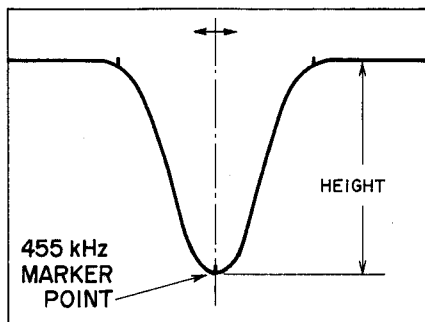

Fig. 15
- 5) Adjust the cores of FM-AM IF Amp. P.C. Board IFT T7(BLK) (refer to Fig. 5) so that the 455 kHz marker point of the single peaked curve displays maximum amplitude as shown in Fig. 15.
- 6) Adjust the cores of FM-AM IF Amp. P.C. Board IFT T6(WHT) and T5(YLW) (refer to Fig. 5) so that the left and right rise up characteristics of the single peaked curve shown in Fig. 15 are identical from the center (indicated by the dotted line in the figure).
NOTE: A noise element should not enter the single peaked curve shown in Fig. 15.